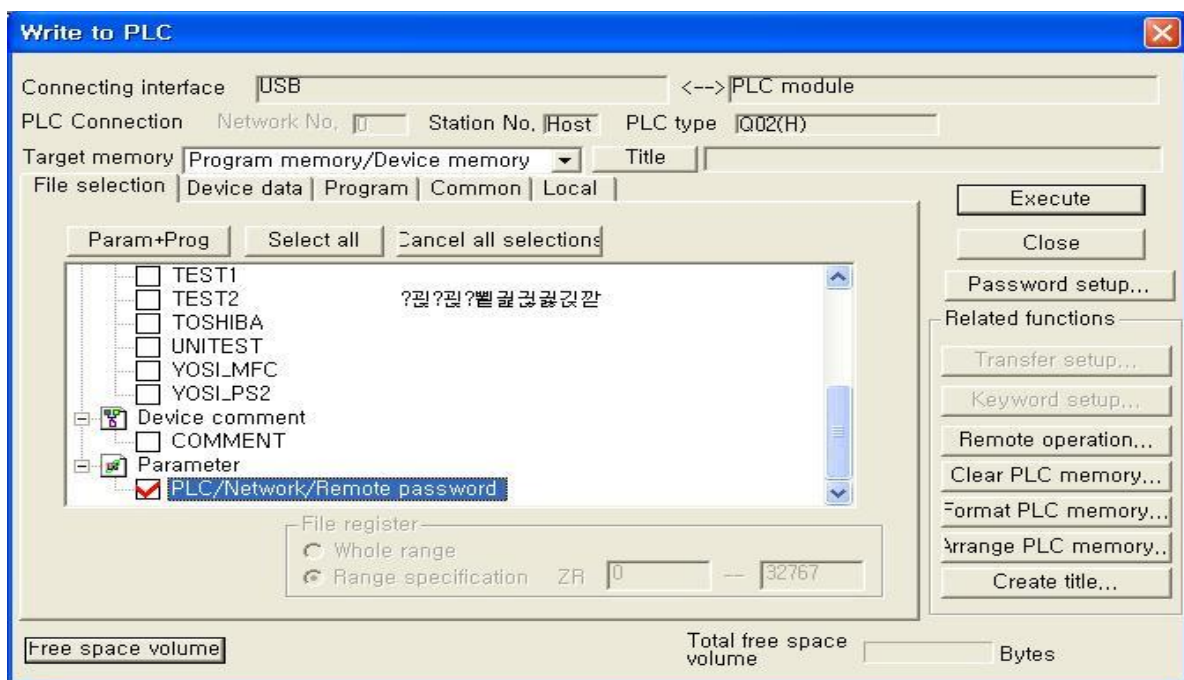

Fig. 5.4 How to download network parameters to PLC
- 2) Click Online → Write to PLC on menu to open a window as shown in Fig. 5.4.
- 3) Select PLC/Network/Remote password, the submenu of the Parameter positioned at lower end of Fig. 5.4, and click Execute button.